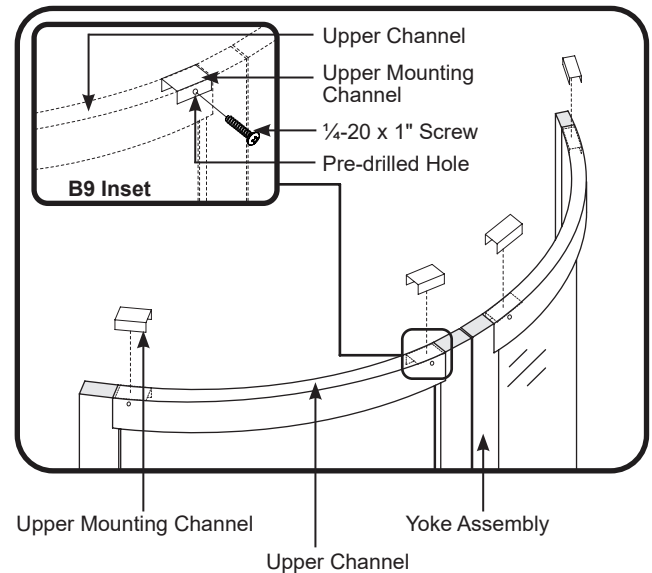

Fig. B9
1. Place each upper mounting channel inside the Yoke upper channel (Figure B9). Align mounting channel with the pre-drilled hole (Figure B9 - Inset).
4. Secure each upper mounting channel to the Yoke using a 1/4-20 x 1" screw (Figure B9-Inset).